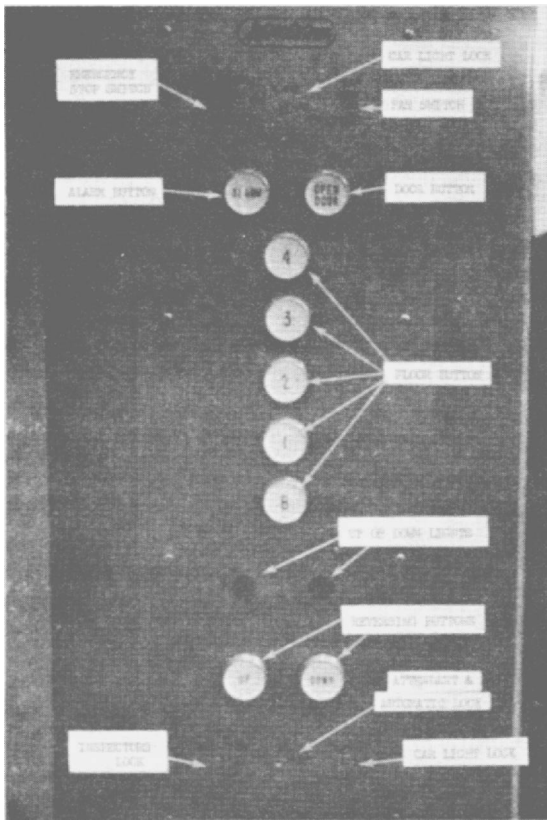

Figure 25. Elevator Control Panels.
4.2.1.4 Dual Operation.. Figure 25 shows control panel for dual operation elevator. An elevator of this type may be operated either manually or automatically. Usually, change-over is made by means of a key-operated switch. Manual operation is generally the same as operation with car switch control. If elevator has no car switch control, floor landing buttons are used in same manner as for automatic operation. When this is done, car can no longer be stopped by pressing landing buttons at floors, but they do indicate to operator that car is desired at certain landings.
4.2.1.5 Signal Control. To operate this type of elevator (fig. 25), operator presses buttons corresponding to floors desired by passengers. When all passengers are in car, operator moves controls to "start" position. This closes doors and starts car automatically. When car is in motion, operating control is returned to normal position. Car will stop at each floor for which button is pressed, and open doors automatically. Car will also stop in response to buttons pressed at floor landings.